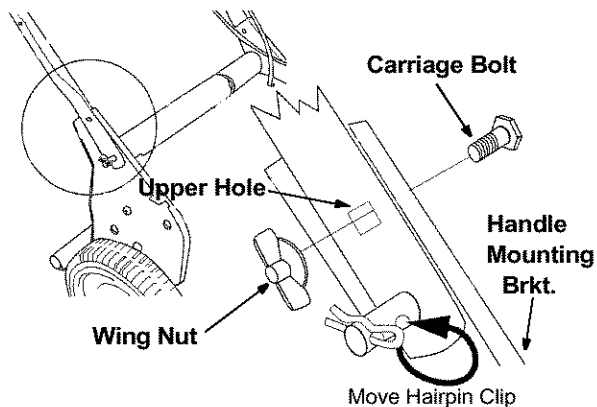

Figure 5
- Using a pair of pliers, insert the hairpin clip into the inner hole on the weld pin. Repeat on other side. See Figure 5.